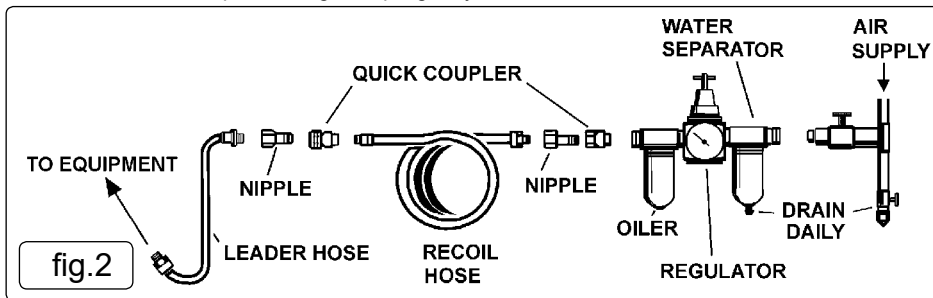

fig.2
- 4.1.4. Clean air inlet filter weekly. Recommended hook-up procedure is shown in fig. 2.
Vibration may cause failure if a quick change coupling is connected directly to the air sander. To overcome this, connect a leader hose to the sander. A quick change coupling may then be used to connect the leader hose to the air line recoil hose. See figs. 2 & 3.